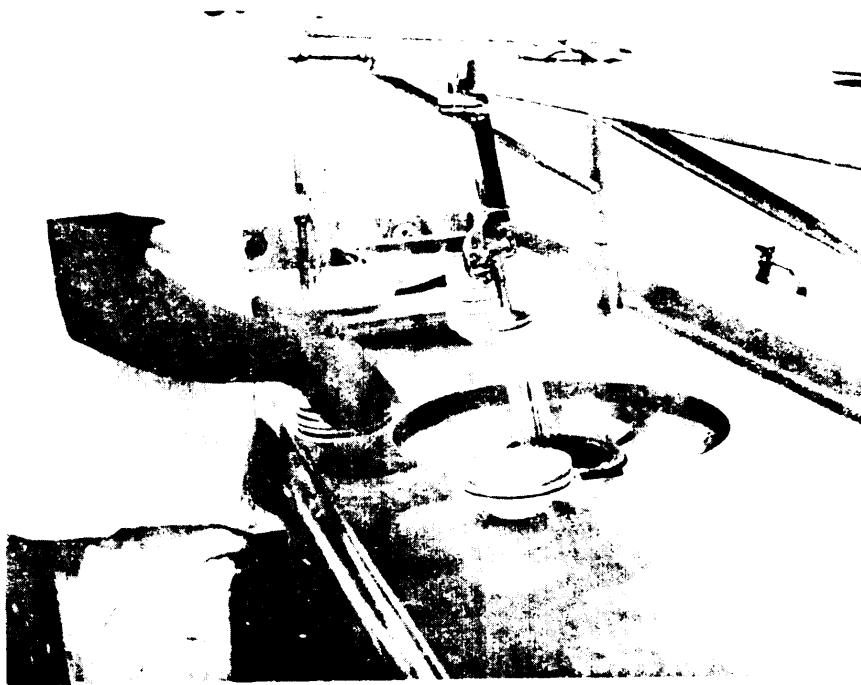

Figure 17 - Garbage Disposal/Flushing Attachment
b. Garbage disposal/flushing attachment (Figure 17). - Food particles are rinsed off tableware and serving trays by means of a prerinse unit and are disintegrated in the garbage disposal.